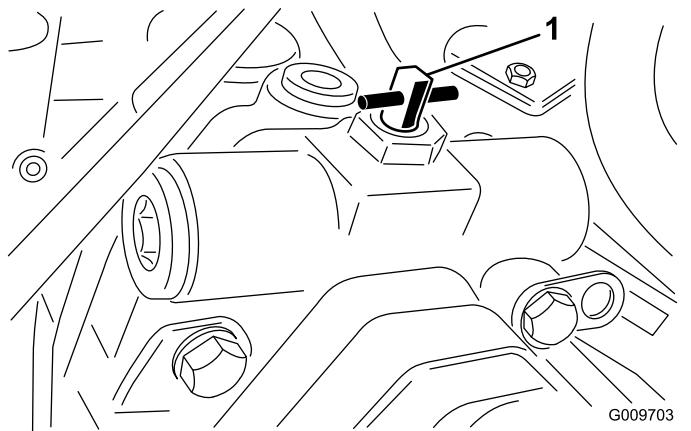

Figure 61
2. Rotate the bypass valve 90° (1/4 turn) in either direction to open and allow oil to bypass internally (Figure 61). Because fluid is bypassed, the machine can be slowly moved without damaging the transmission. Note the position of the valve when opening or closing.